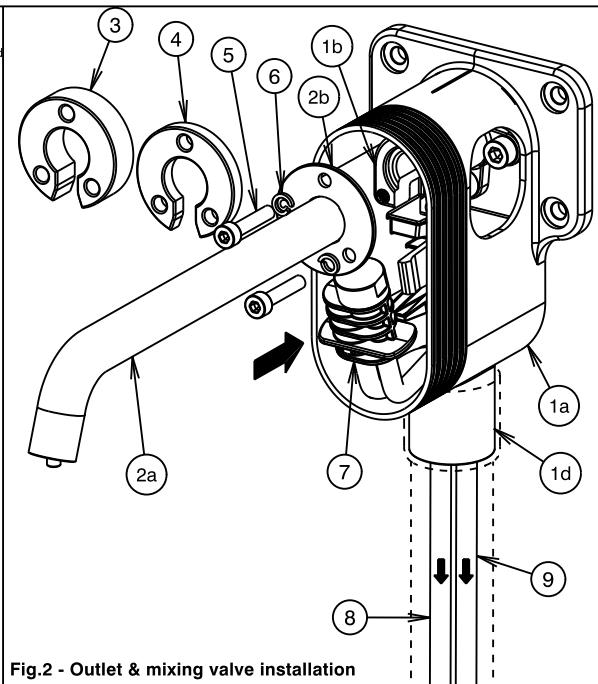

Fig.2 - Outlet &amp; mixing valve installation
- ii) Check that the front face of the mounting body(1b) is at least 5mm from the front of finished wall/tile face. 5mm spacer (4) & 10mm spacer (3) are provided to bring the outlet forwards if required. Spacers (3)or (4) can be placed between item (2b) and body (1b), as shown in **Fig. 2**.
- iii) Insert the soap & air tubes (8) & (9) into the housing (1a) and pass them through the hole of connection point (1d) as shown in **(Fig. 2)**. Wire draw/fish tape can be used by carefully tying it to the tubes and pass through the conduits (not supplied) until the tubes come out at the open end, Do not pull the soap tubes out forcefully. Place the mixing valve (7) inside the housing as shown in **(Fig. 2 & 3)**.
- iv) Fit the spring washers (6) onto the 3 screws (5).
- v) Align the 3 holes on the flange (2b) of outlet (2a) with the holes on mounting body (1b), insert screw (5) along with washer (6) into the flange (2b), through the threaded hole in body (1b) then fit the remaining 2 screws in remaining 2 holes in similar manner, screw them in and tighten using 3mm allen key.